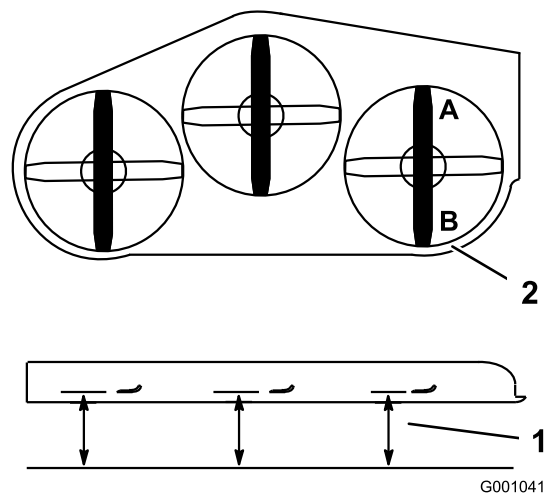

Figure 83
2. Position 1 blade front-to-rear. Measure at **A** and **B** locations from a level surface to the cutting edge of the blade tips (Figure 83).